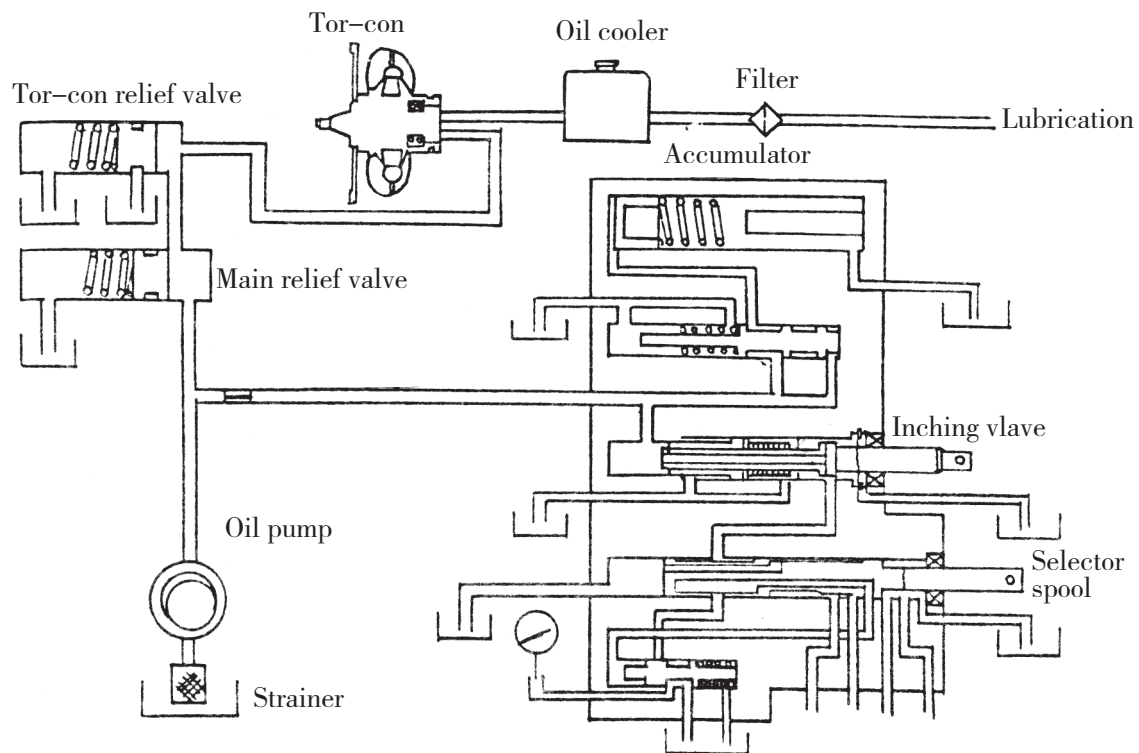

Fig.3.7 Tor-con hydraulic system
3.6 Hydraulic circulation system(See fig.3-7)